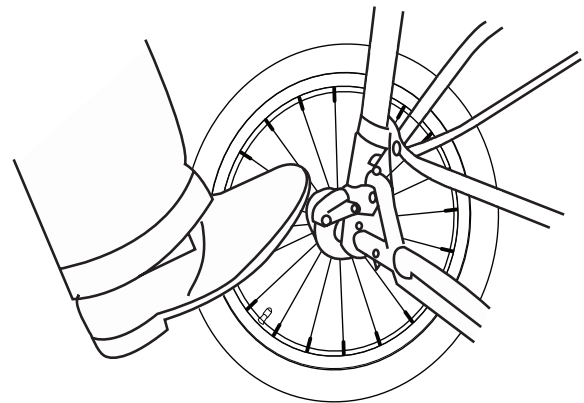

Fig. 14
13. To lock brakes, press downward on brake lever located on each rear wheel. Please note in order to line up the break tab with brake tab slots stroller may need to be moved forward or backwards slightly. (Fig. 14) Check to make sure the brakes are in a fully locked position, so stroller will not move when pushed. To release breaks, gently push up on the brake lever.